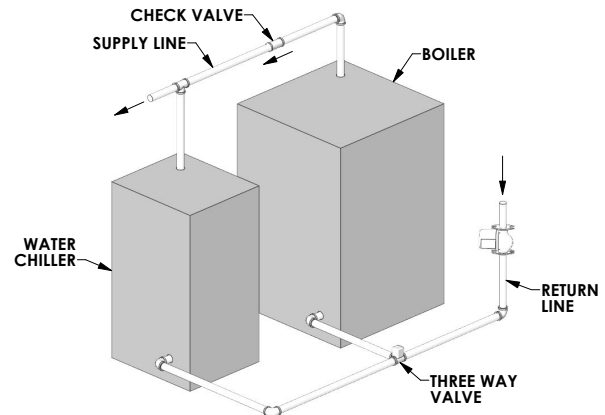

Figure 3.2
9. If the boiler is to be used in conjunction with a refrigeration system, the chilled medium shall be piped in parallel with boiler and proper valves applied to prevent the chilled medium from entering the boiler. Refer to Figure 3.2.